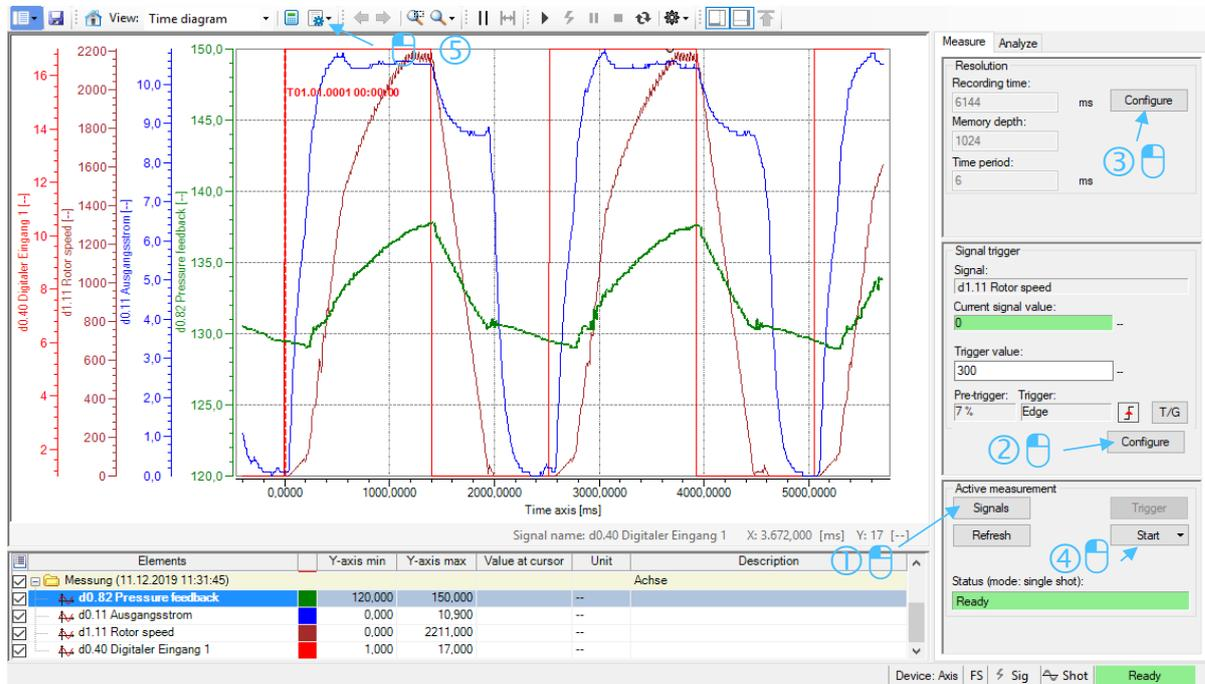

Abb. 17: Oscilloscope function window
- ▶ Click on "Start" to start the measurement ④ (see Abb. 17: Oscilloscope function window).
- ▶ By clicking on ⑤ you have the possibility to display all Y-axes or to select a range in which you can see the min/max/average/RMS values of each channel in a separate table.